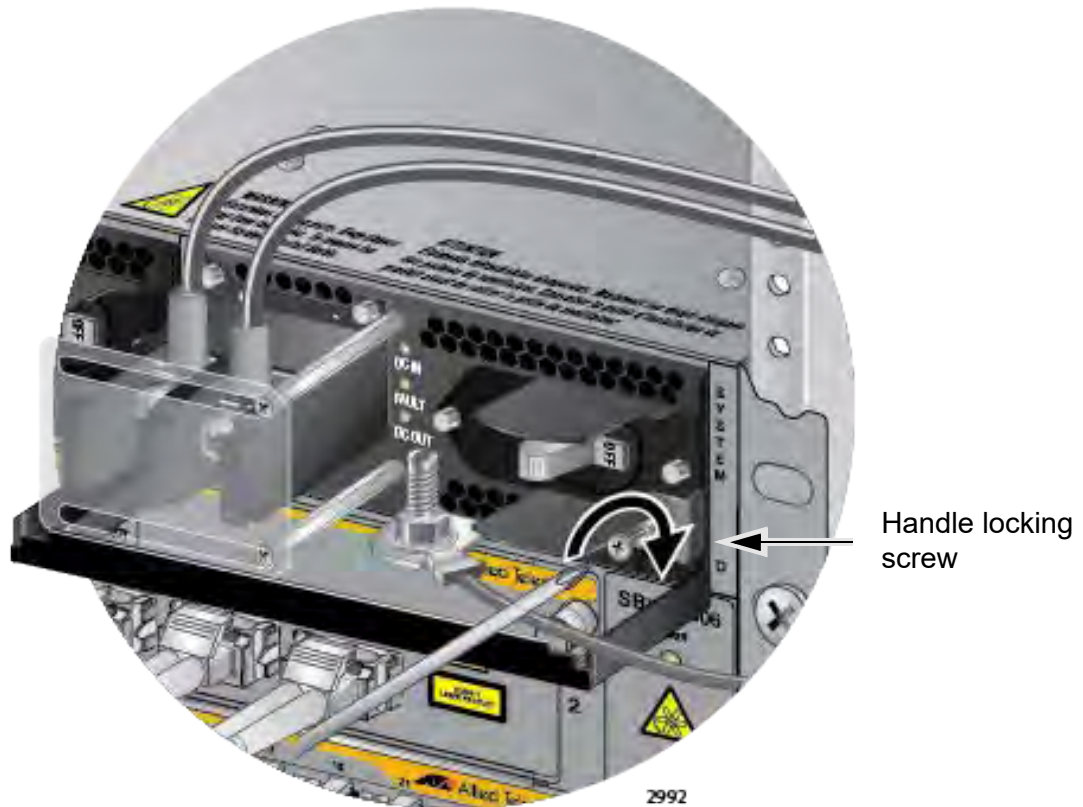

Figure 143. Tightening the Handle Locking Screw
9. With a #2 Phillips-head screwdriver, tighten the handle locking screw to secure the power supply to the chassis. See Figure 143 on page 220.
7. With a #2 Phillips-head screwdriver, tighten the handle locking screw to secure the power supply to the chassis. See Figure 143 on page 220.